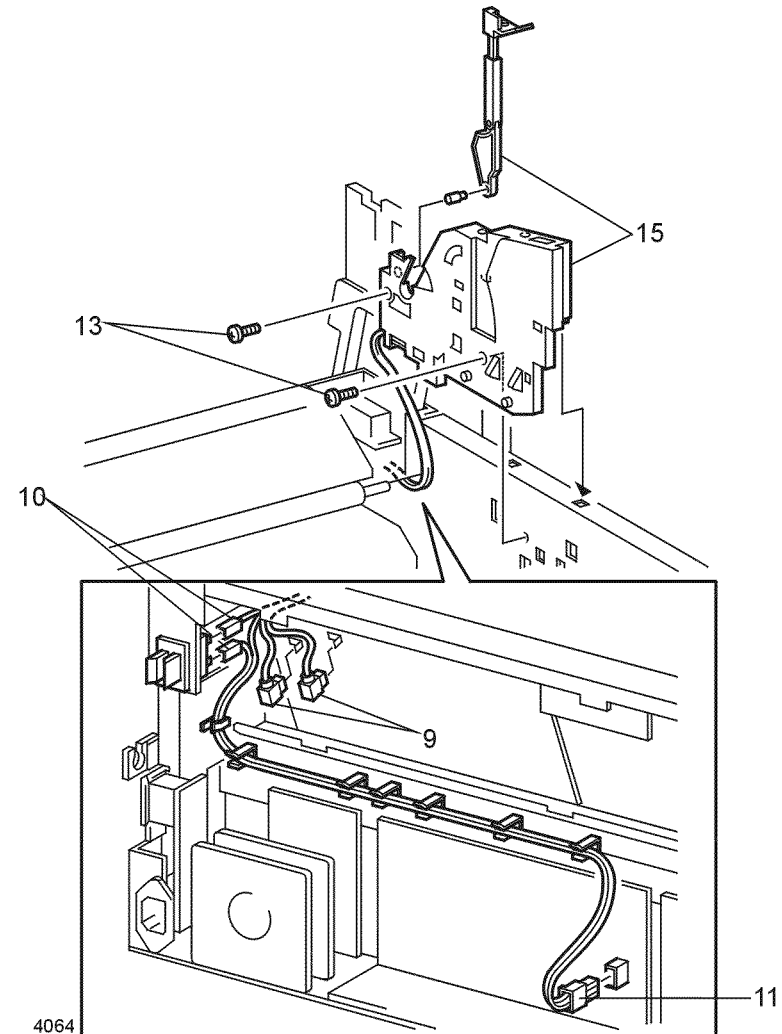

Figure 1 Right Print Cartridge Guide
13. Remove the two screws that secure the right guide assembly (Figure 1).
15. Remove the Right Print Cartridge Guide Assembly and Pin Link from the printer (Figure 1).